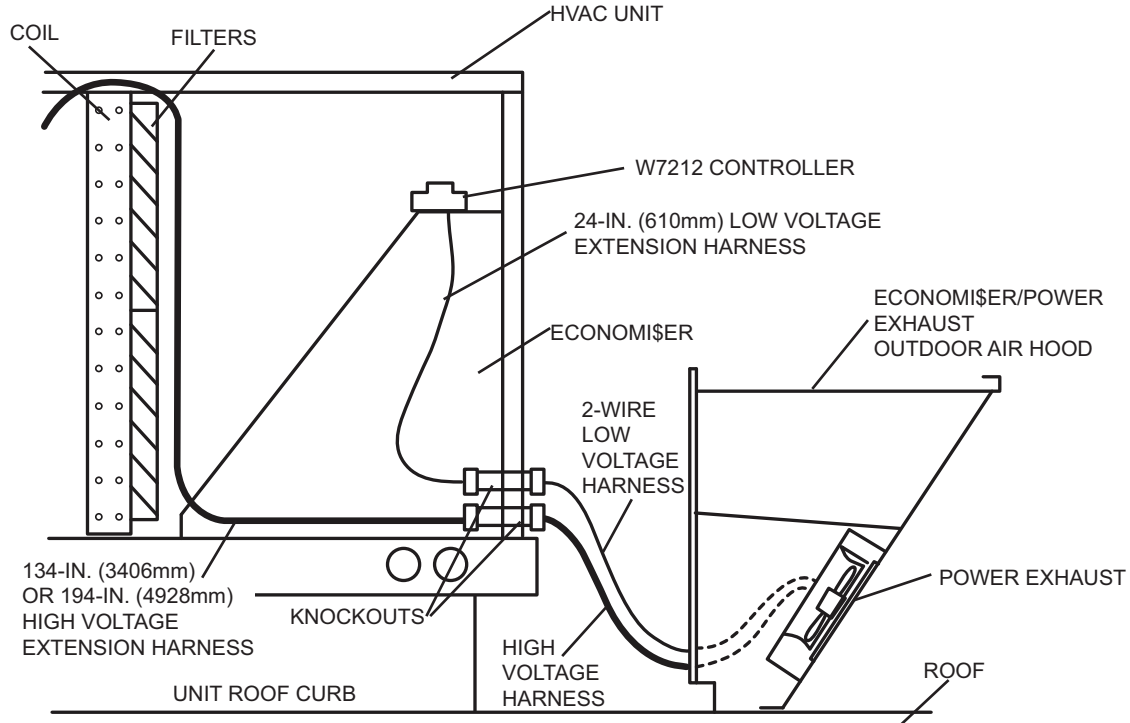

Fig. 4 — Power Exhaust Harness Installation for EconoMiSer IV with W7212 Controller
4. *For EconoMiSer IV:* Route the other end of the low voltage extension harness to the EconoMiSer IV controller. (See Fig. 4.) The harness is connected to the controller by connecting the tan wire to the tan wire 24 VAC COM terminal on the controller. The terminal on the gray wire is connected to terminal EF1 on the controller. See Fig. 6 and 7 for EconoMiSer IV wiring diagrams. Install the gray jumper wire on the controller from the exhaust fan terminal (EF), to the 24 VAC HOT terminals. The gray jumper is shipped wire tied to the control harness.